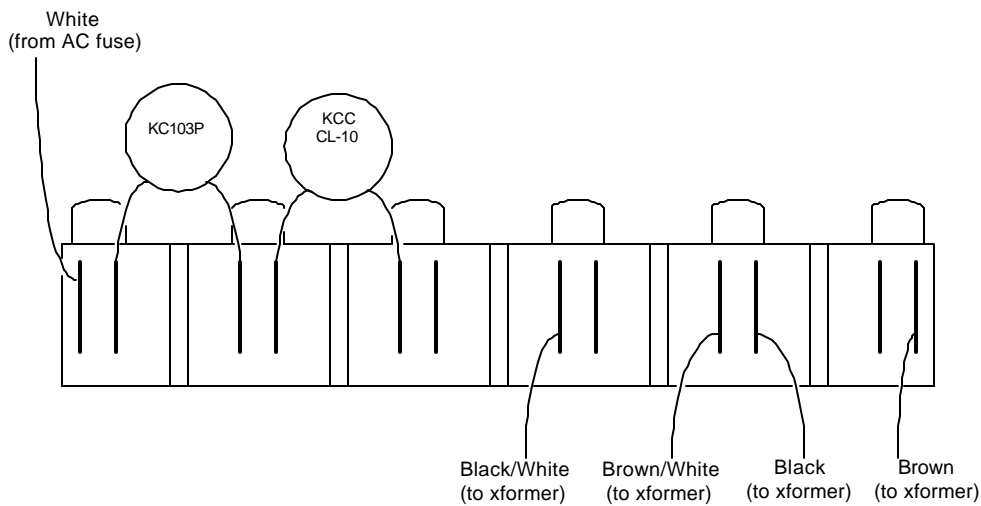

Figure 1: Transformer lead configuration for 230VAC operation (multivoltage units)
3. Move the transformer leads so they are configured as shown in figure 1.